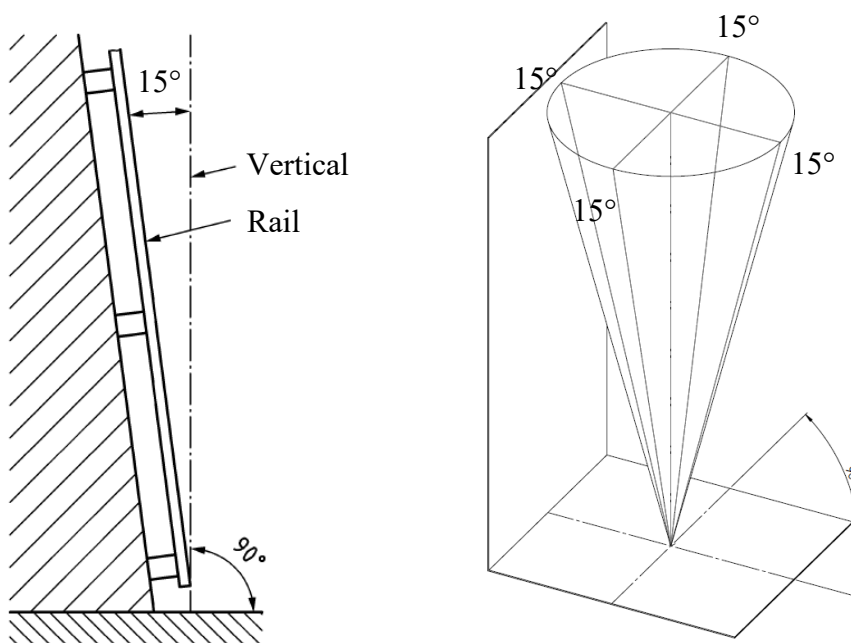

Figure 23 : Angle of inclination
- The maximum angle of inclination of the straight guide rail is $\pm 15^\circ$ from the vertical (see Figure 23 : Angle of inclination)